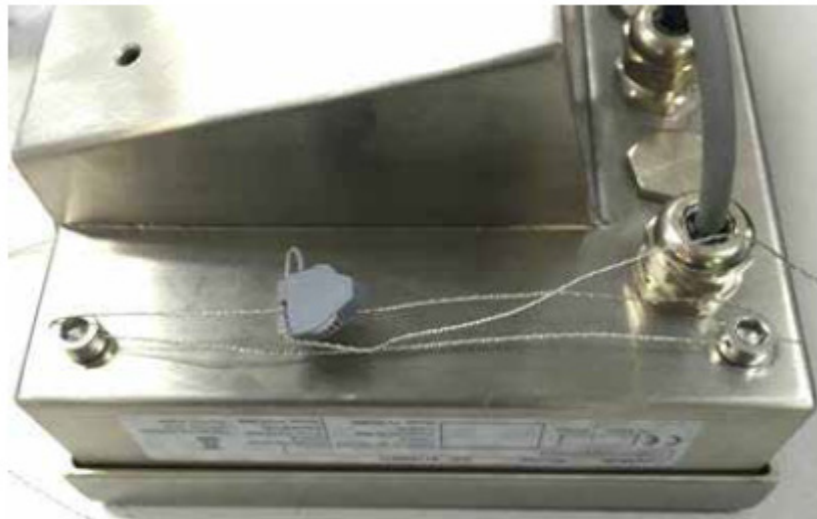

Figure 2-15: Sealing Method
IND256x lead seal details are shown in Figure 2-15. The procedure is as follows:
12. Pass the seal wire through two adjacent sealing bolts and then fix the seal retainer as shown in Figure 2-15.